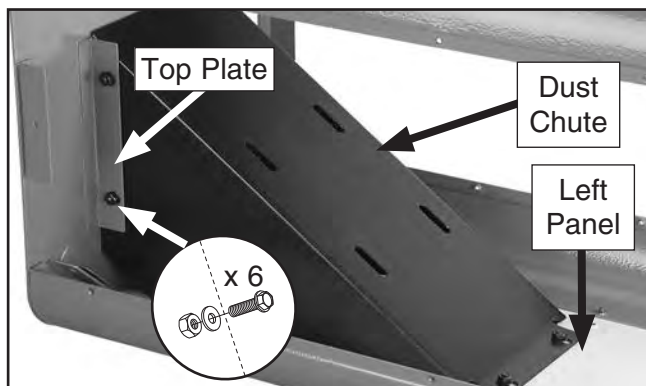

Figure 11. Dust chute installed.
5. Carefully place the cabinet on its left side, and secure the dust chute to the top plate flanges and left panel with (6) M6-1 x 12 flange bolts, 6mm flat washers, and M6-1 hex nuts (**Figures 11 & 12**).